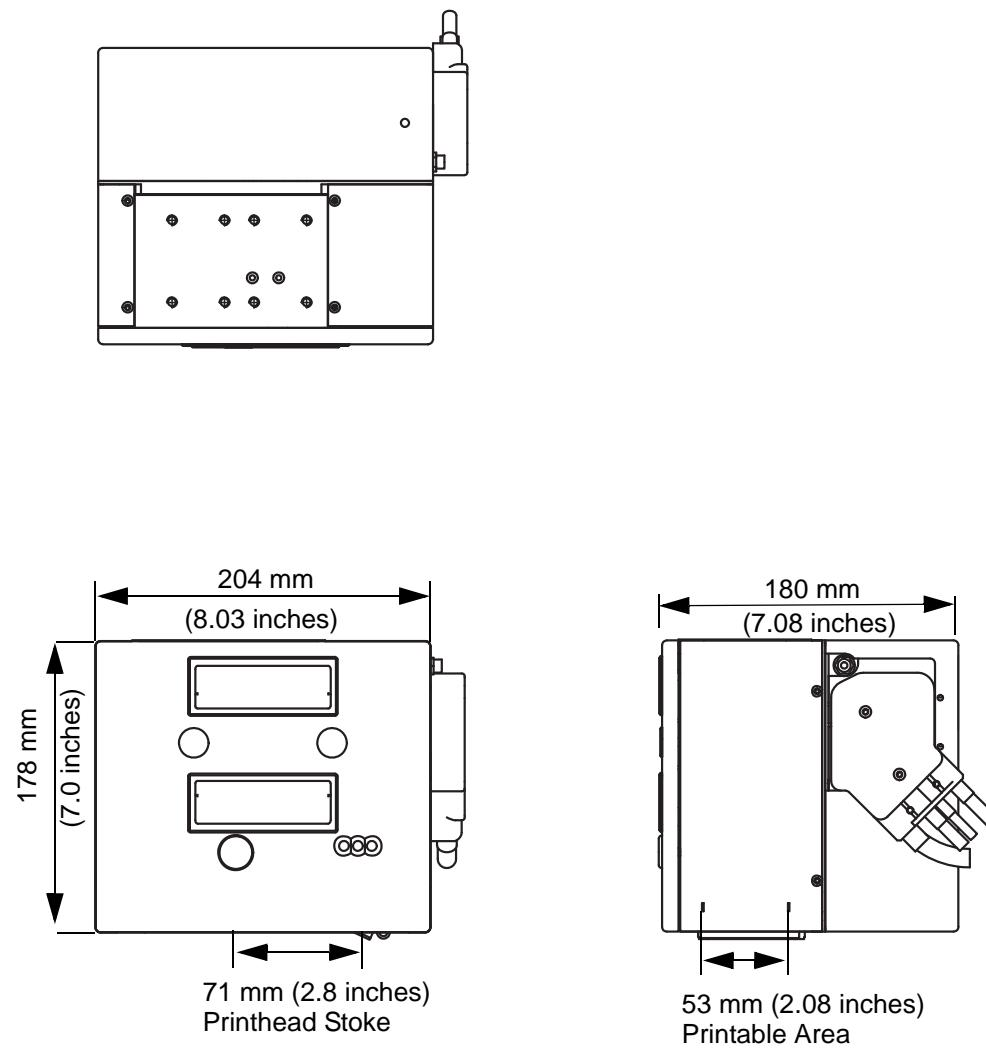

Figure 9-2: 53mm LH Printer Dimensions
Figure 9-2 shows the dimensions of the 53mm (LH) printer.